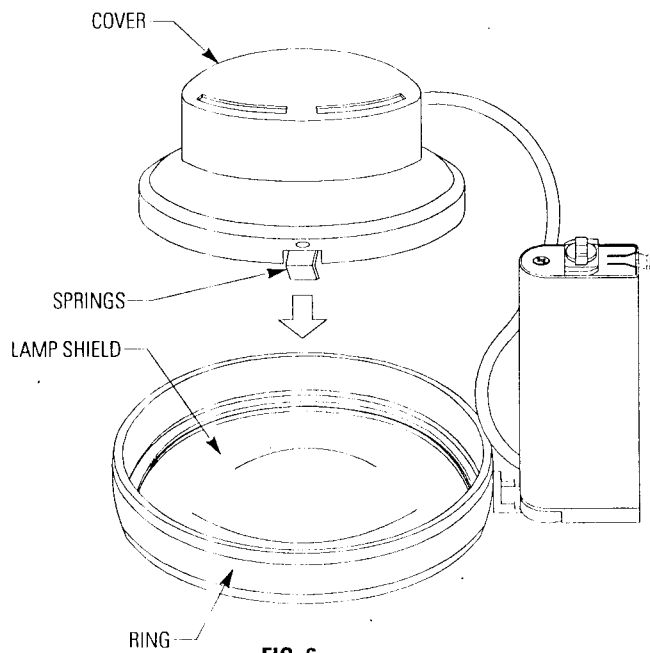

FIG. 6
3. Insert the COVER with LAMP into RING until (3) SPRINGS engage fully with the RING (Fig. 6).